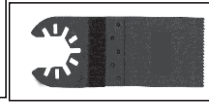

Fig. 1a
a) For “open back” accessories (Fig. 1a), the blade screw does not have to be removed. Simply loosen the blade screw sufficiently to allow the accessory mount to slide between the washer and the accessory holder.